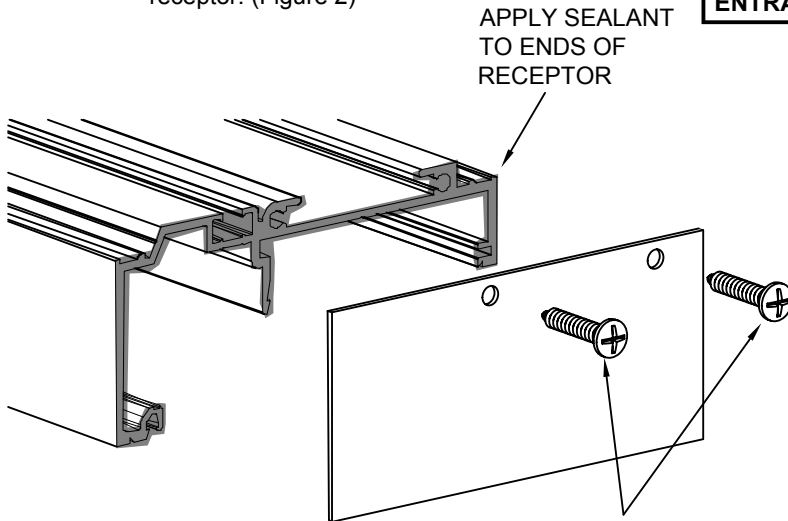

FIGURE 1
- STEP C:** Apply sealant to ends of receptor. (Figure 1)